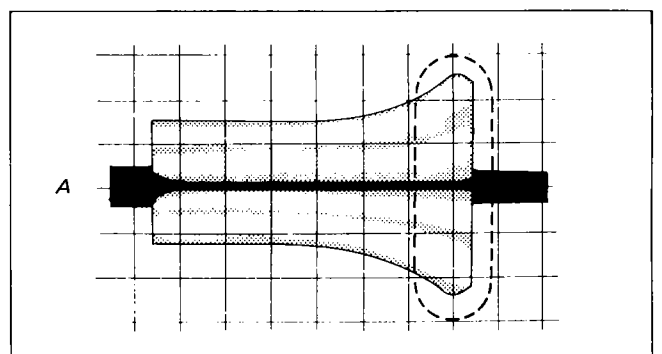

Fig. 4-12.
- When the waveform is outside this range and has the form shown in Fig. 4-12, turn the tilt adjustment screw counterclockwise to adjust until the waveform is within the required range.
- When the exit free waveform is outside of the required range and has the form shown in Fig. 4-13, turn the tilt adjustment screw counterclockwise to produce waveform A (Fig. 4-12), then turn it clockwise to bring the waveform within the required range.
- 8) If the radio frequency waveform is as shown in Fig. 4-12 on the exit side, repeat the adjustment.